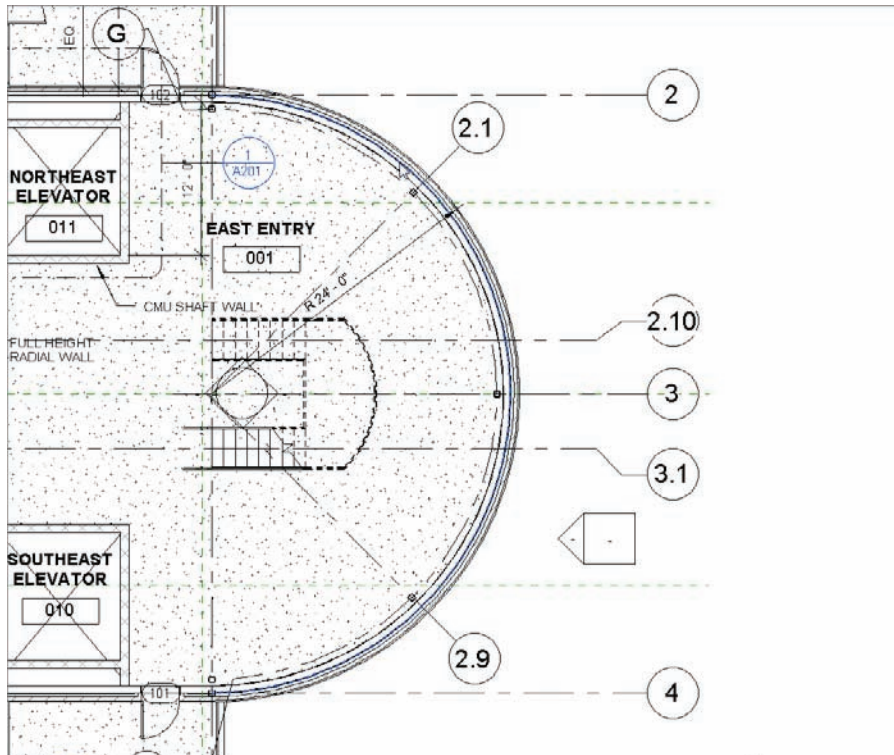

FIGURE 16.25 Picking the radial entry wall to add the curtain wall
16. Pick the radial entry wall, as shown in Figure 16.25. Make sure you're picking the wall centerline.